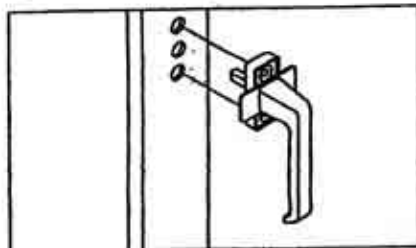

Figure 5-4. Handle in the Lock position
- 2.3 Lock position: install the SA-FE-Handle on the sash in the vertical Lock position, with the handle pointing down. Insert the shaft into the center hole. See fig. 5-4.